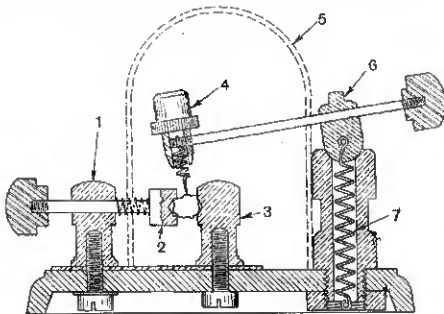

Fig. 1.
A form of crystal detector which, it is claimed, allows of easy adjustment,* is shown in Fig. 1. The crystal is held between the pillar (3) and the cup (2). The cup is carried by a rod which passes through the pillar (1), and may be rotated or moved endways. The contact wire is carried by a rod at (4), and the rod passes through the piece (6),